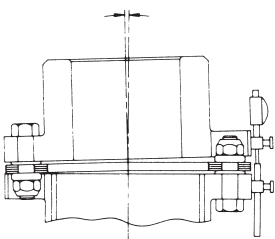
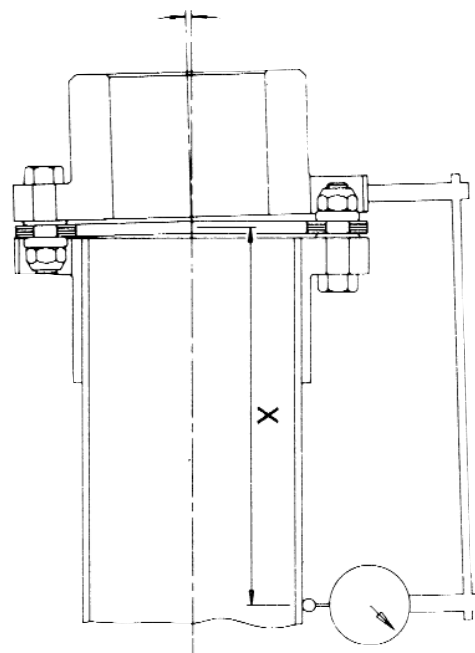

FIGURE 4
FIGURE 6
D. Angular Alignment. As the SV coupling is usually quite long, it is suggested to use the "Across the disc pack" procedure to correct the angular misalignment. See Figure 4, 5 and 6.
The method shown in Figure 6 is preferred because axial movement of the shafts during the alignment process does not affect the results. Rigidly mount a dial indicator on the shaft or hub reading out on the center tube a convenient distance "X". Rotate the assembly. Adjust the equipment by shimming and/or moving so that the indicator is within .002 inch per inch of distance "X". (Center of flex joint to position on center member tube where readings are taken.) If the method shown in Figure 4 and 5 is chosen, use .022 inch per inch of hub flange diameter as the limit. Repeat above for both ends until coupling is aligned. This procedure will correct the shaft angular and shaft parallel offset misalignments. See Table 1.